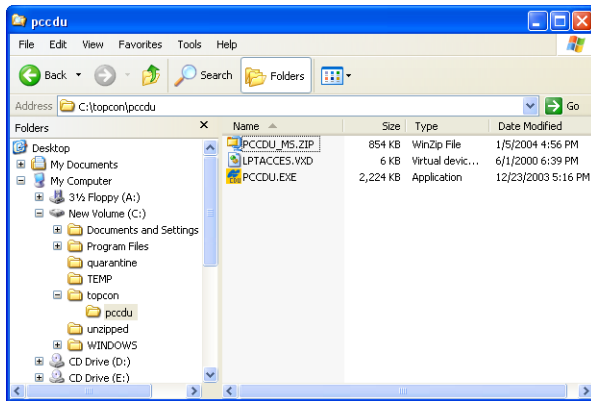

Figure 2-1. Extract Program and Create Shortcut
3. Extract the PCCDU.EXE and associated *.dll file to the PC-CDU folder (Figure 2-1).
4. Optionally, create a shortcut on the computer's desktop for quick access to PC-CDU (Figure 2-1).